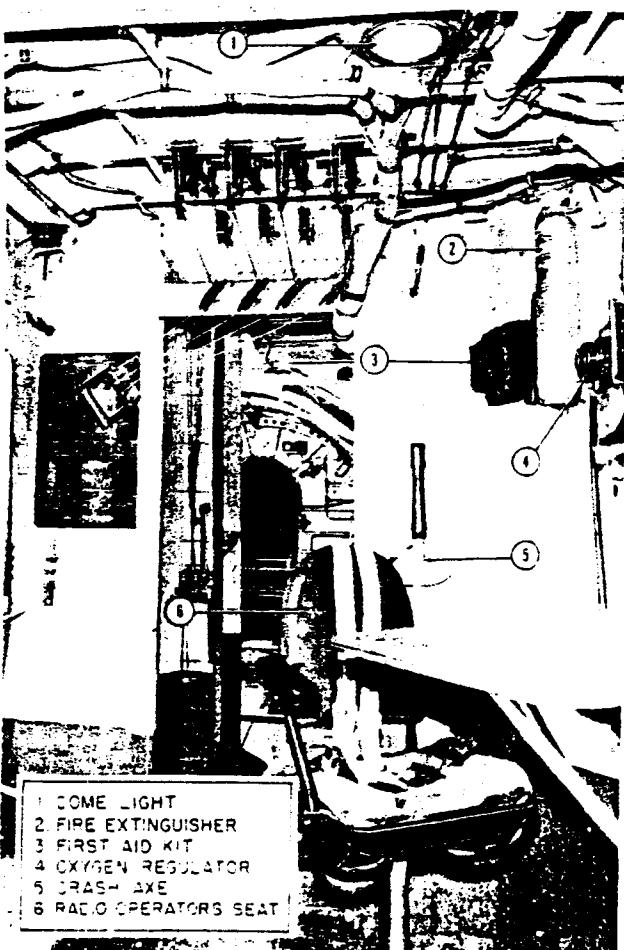

Figure 9. Radio Operator's Station
a. INTERPHONE.- The radio operator's interphone jack box is located on the cabin wall above the table. The interphone amplifier is mounted on the lower radio shelf, forward of the radio operator's position. (See figure 9.)